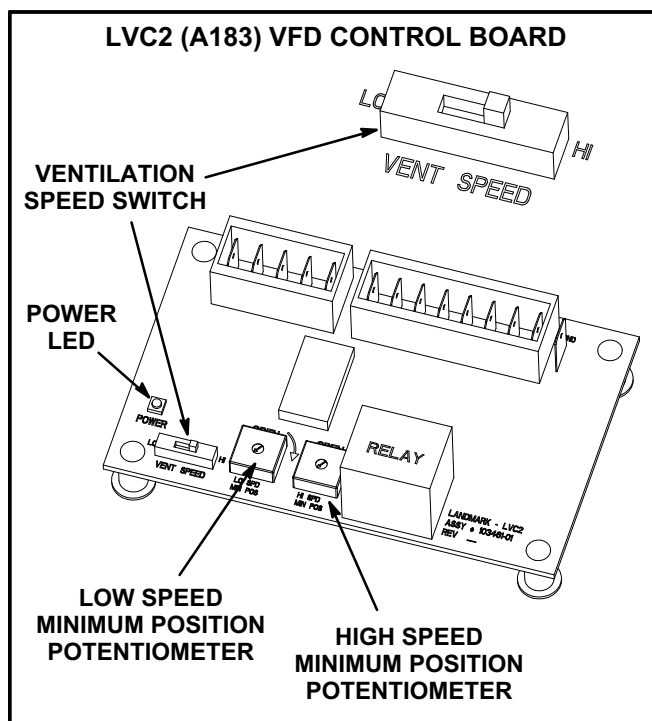

FIGURE 12
To save energy during ventilation, the blower speed can be set to low. This is accomplished by changing the ventilation speed switch on the VFD control board to “LO”. See figure 12.
To maintain required minimum ventilation air volumes when the unit is in the occupied mode, two minimum damper positions must be set. A high and a low speed potentiometer are provided on the VFD control board to adjust minimum damper position. See figure 12.
5. Check the power LED on the board. See figure 12.
8. When LVC2 24VAC thermostat blower (G) input and 24VDC power are present, check the LVC2 low and high speed outputs. The LVC2 uses inverse logic to enable the blower; 1VDC will be read at the enabled blower speed terminal. See table 8.